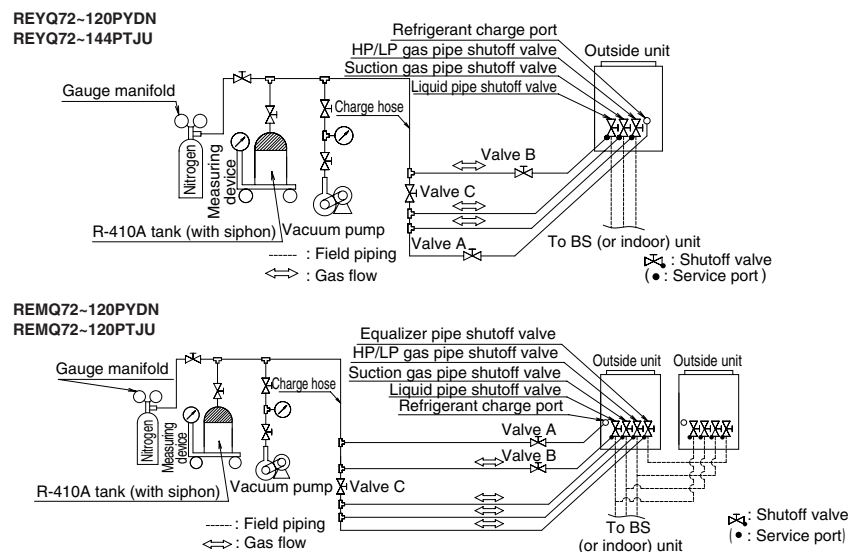

figure 25
- Referring to figure 25, connect a nitrogen tank, refrigerant tank, and a vacuum pump to the outside unit.
- The refrigerant tank and the charge hose connection to refrigerant charge port or the valve A in figure 25 are needed in **10.2.6 Additional Refrigerant Charge and Check Operation**.